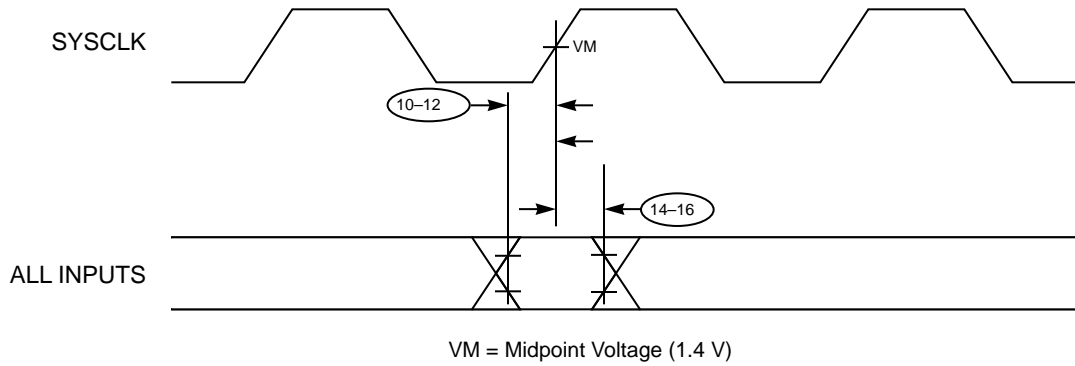
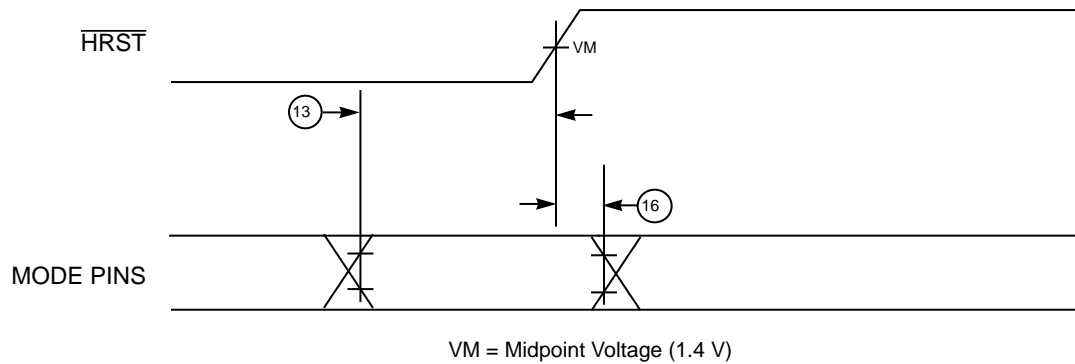

Figure 2. Input Timing Diagram
Figure 3. Mode Select Input Timing Diagram
Table 6 provides the input AC timing specifications for the MPC105 as defined in Figure 2 and Figure 3. These specifications are for operation between 16.67 and 33.33 MHz bus clock (SYSCLK) frequencies.
4. The setup and hold time is with respect to the rising edge of \overline{HRST} ; see Figure 3. The following signals encompass the mode (or configuration) pins for MPC105— $\overline{RCS0}$, $\overline{BCTL0}$, DL0, \overline{XATS} , and FNR.